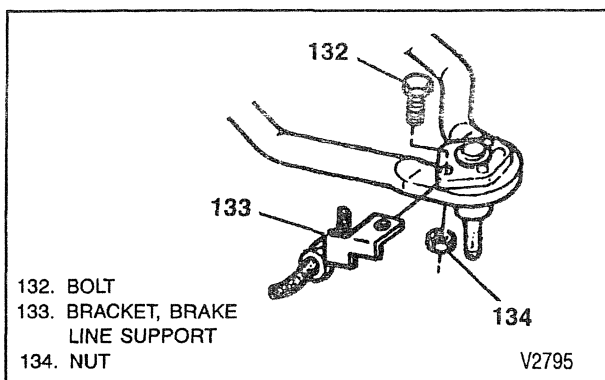

Figure 7—Brake Line Bracket Removal
3. Brake pipe support bracket from upper control arm to allow extra travel of knuckle (figure 7).